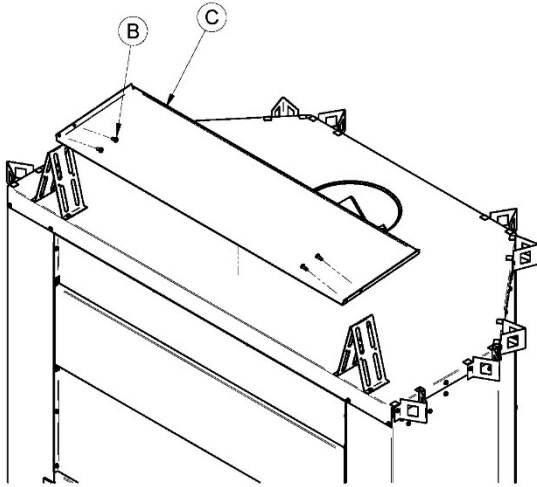

Figure 6
- As illustrated in **Figure 6 and 7**, position the heat shield (**C**) between the spacers previously installed with the folds facing up. Align the holes of the shield with the ones of the left and right spacer and secure it with 4 screws (**B**).